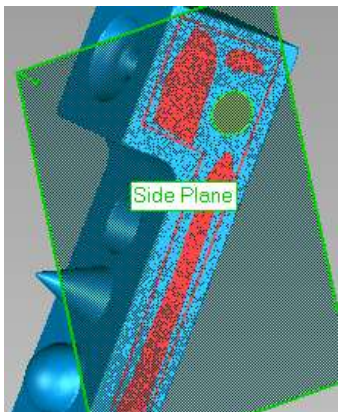
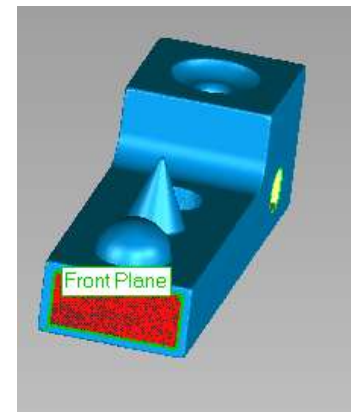

Figure 68
Figure 70
8. Make selections and **Name** the planes as shown in **Figure 68** to **Figure 70**. Click **Apply** to create and **Next** to move to the creation of the next plane feature.